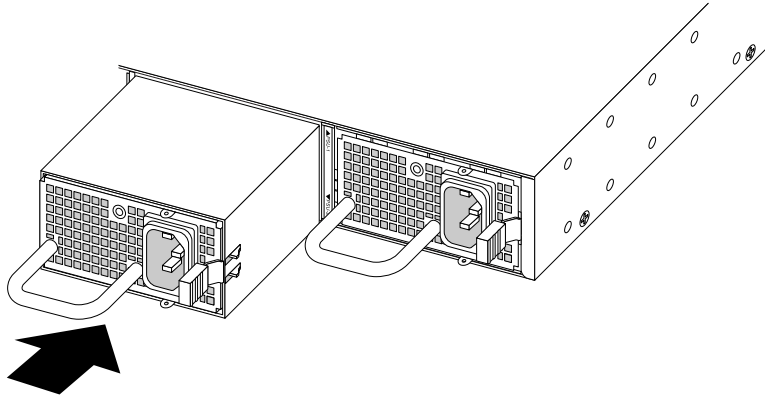

Figure 280: Installing a Power Supply
- 3 Verify that the power supply is right side up, with the latching tab at the right of the unit (see Figure 280: Installing a Power Supply on page 307).
- 4 Carefully slide the power supply all the way into the power supply bay (see Figure 280: Installing a Power Supply on page 307).